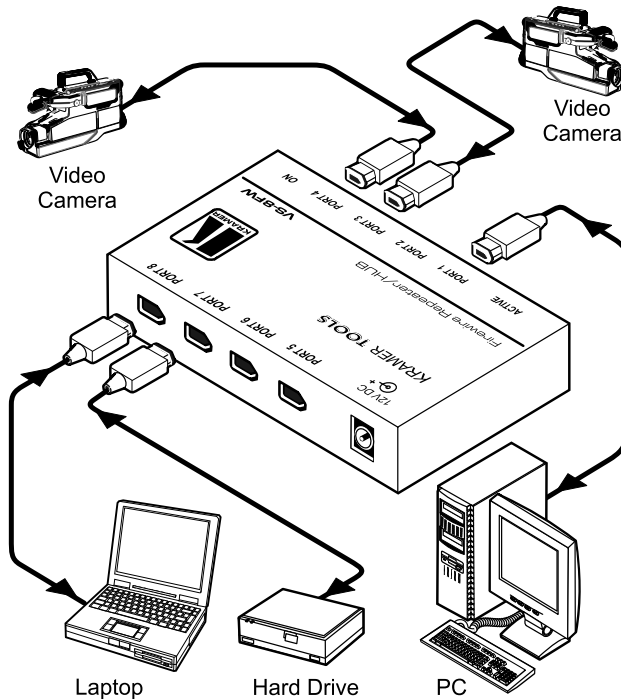

Figure 4: Connecting the VS-8FW FireWire Repeater / HUB
To use the **VS-8FW**1 *FireWire Repeater / HUB*, as the example in Figure 4 illustrates, do the following2:
2. Connect the 12V DC power adapter to the power socket and connect the adapter to the mains electricity (not shown in Figure 4). The ON red LED lights.